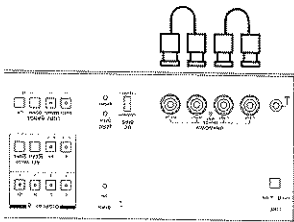

Figure 5-10. A2 Modulator Zero Offset Preadjustment.
- c. Connect BNC-to-BNC cable between H cur and L pot connectors and another BNC-to-BNC cable between L cur and L pot connectors of 4274A unknown terminals as shown Figure 5-10.